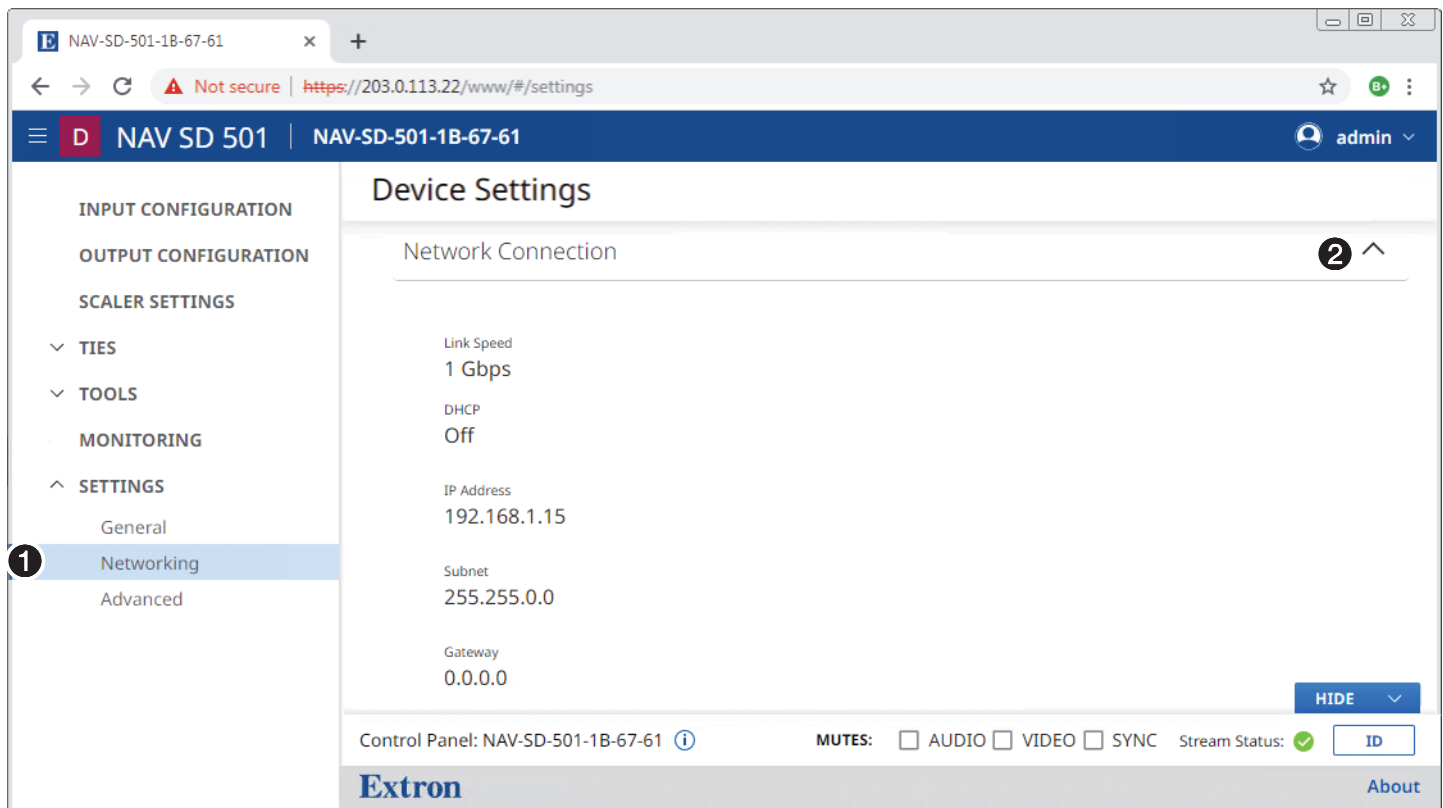

Figure 5. Home Page
6. Enter the **username** and **password** in the appropriate fields (see figure 4, ❶ and ❷) and click **SIGN IN** (❸). The browser opens to the home page of the embedded web pages (see figure 5 on the next page).
1. On the home page, click **Settings > Networking** (see figure 5, ①).